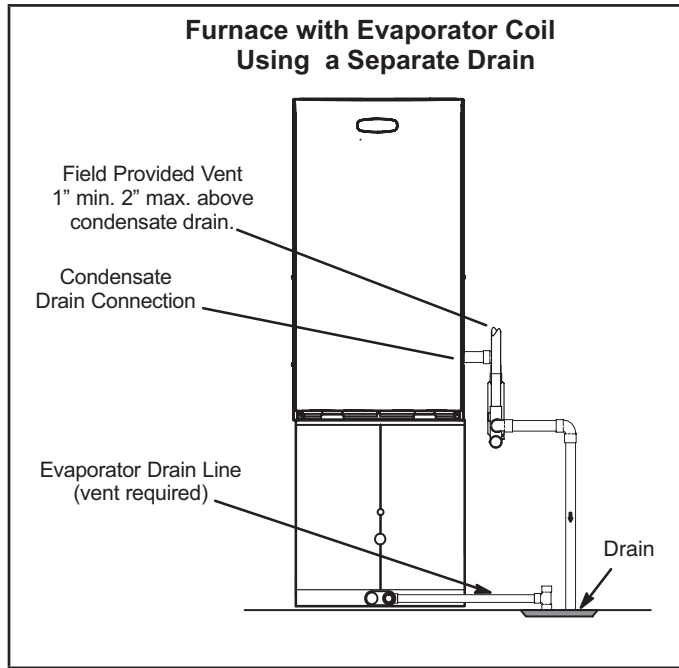
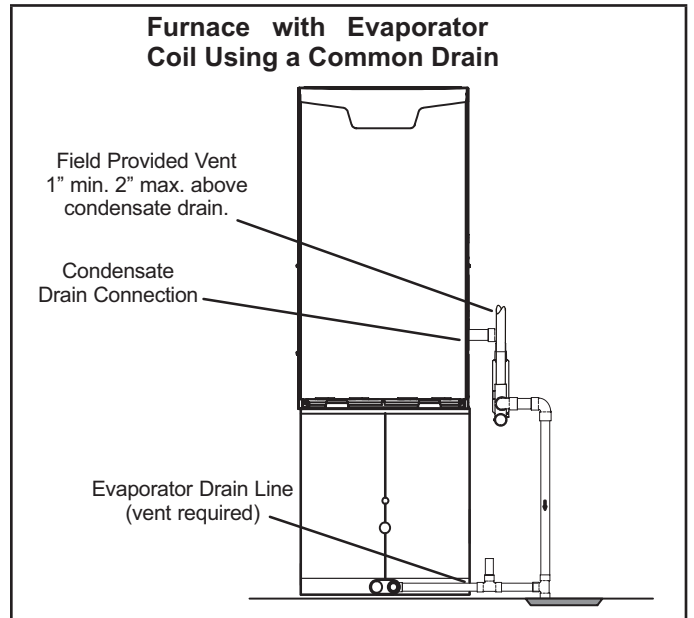

FIGURE 40
FIGURE 41
- 4 - FIGURE 40 shows the furnace and evaporator coil using a separate drain. If necessary, the condensate line from the furnace and evaporator coil can drain together. See FIGURE 41 and FIGURE 42. The field provided vent must be a minimum 1" to a maximum 2" length above the condensate drain outlet connection.